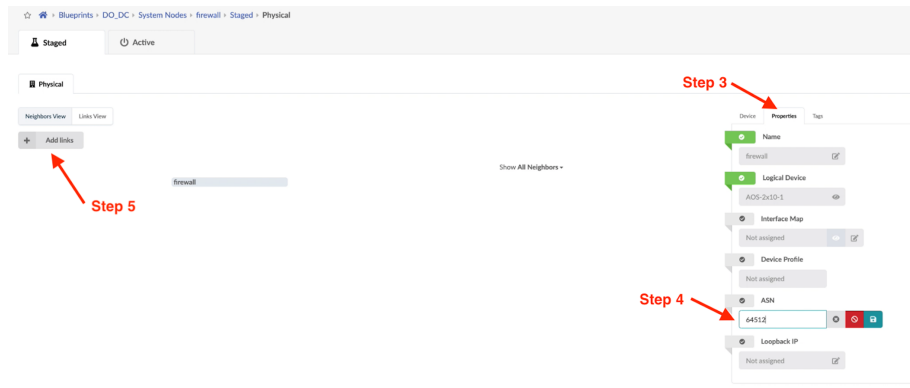

Figure 6.7 Editing a New Generic Device
Step 3: In the next window (Figure 6.7) select the Properties tab.